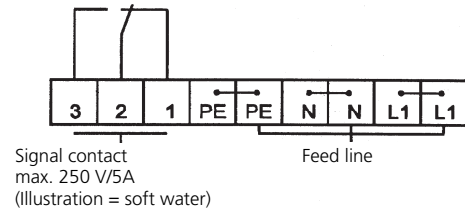

Fig. 1: Circuit diagram
- Connect additional control functions to the terminals 1 – 2 - 3 (volt.-free contact) at the control unit (refer to fig. 1).